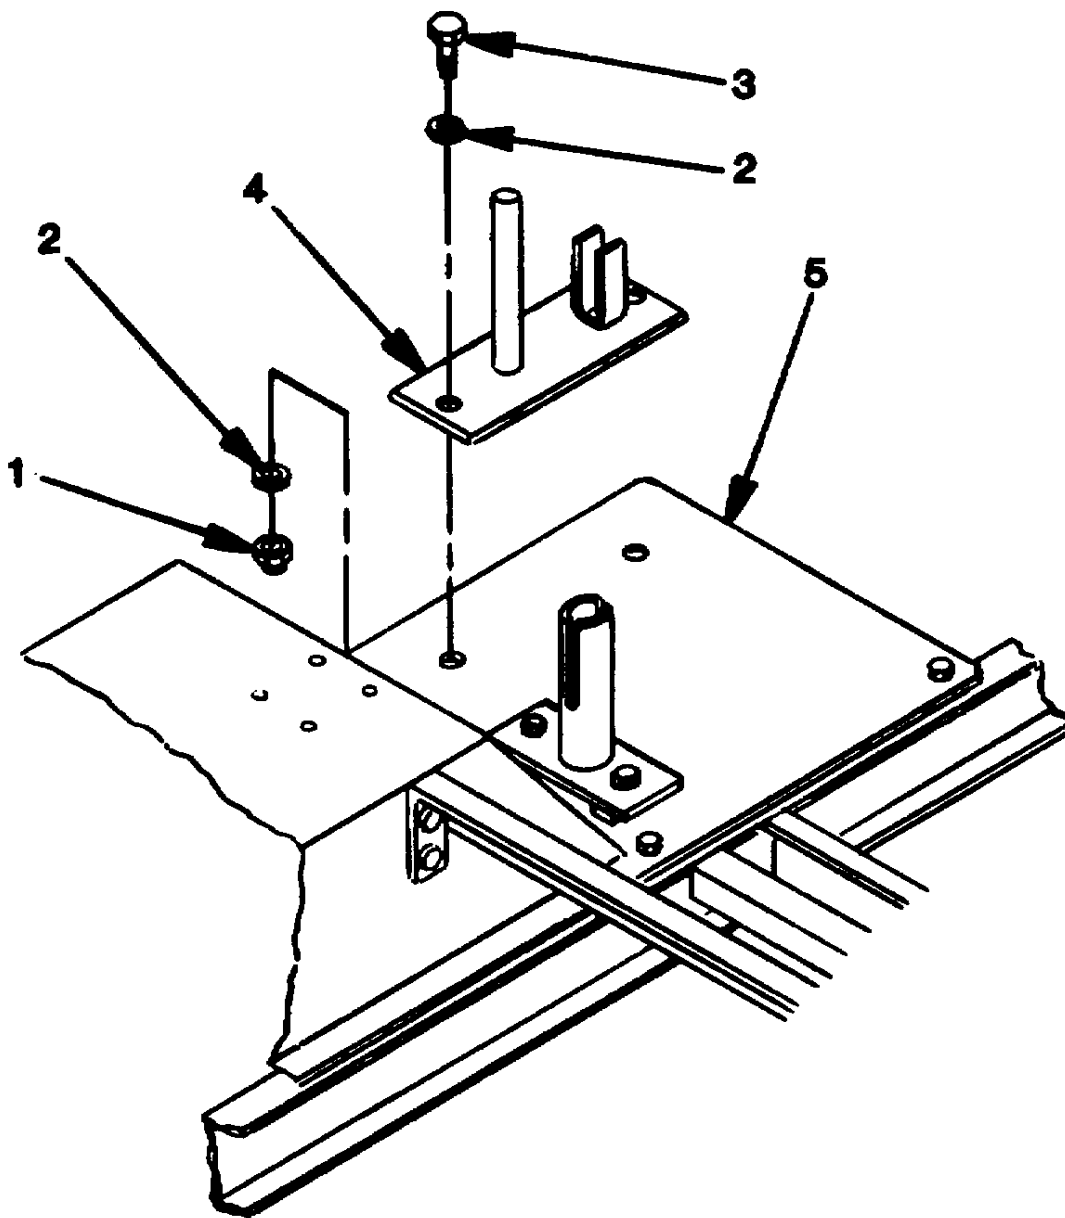

Figure 4-19. Driver/Puller Holder Replacement on AN/MJQ-32.
- (1) Remove two locknuts (1, figure 4-19), four flat washers (2), and two screws (3) securing holder (4) to front fender extension (5).
- (2) Remove holder from front fender extension.